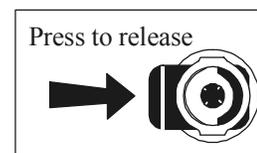

Figure 5-7
5. After water jacket has finished draining, remove the hose barb insert and secure on the front of the unit. See Figure 5-7.